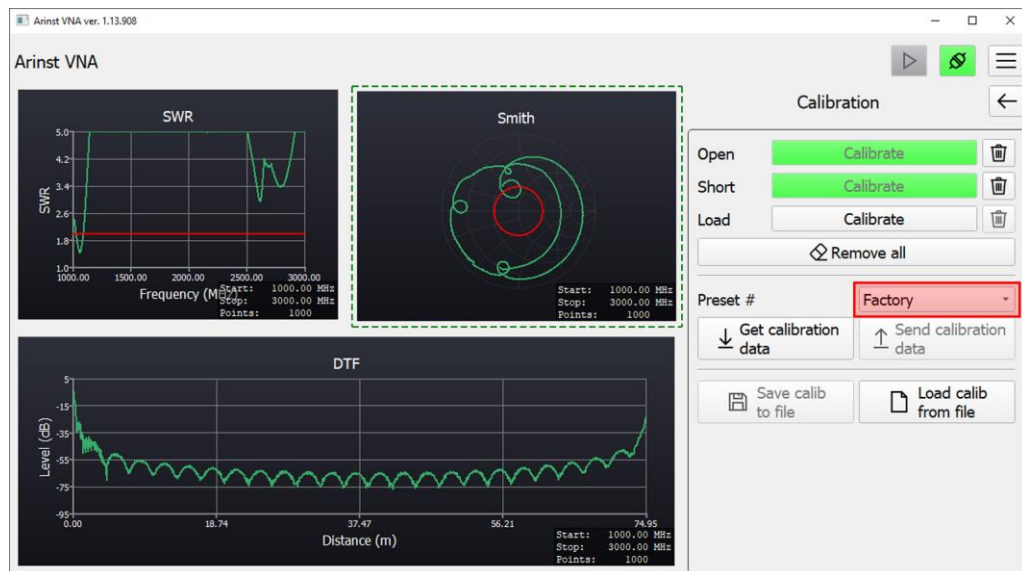

Figure 5.7 - The calibration process of the device
5.5.1. Enter the «**Calibration**» section of the main menu (figure 5.7).
5.5.2. The user can load one of the calibrations in the instrument memory or save the new calibration in the instrument memory (Figure 5.7).